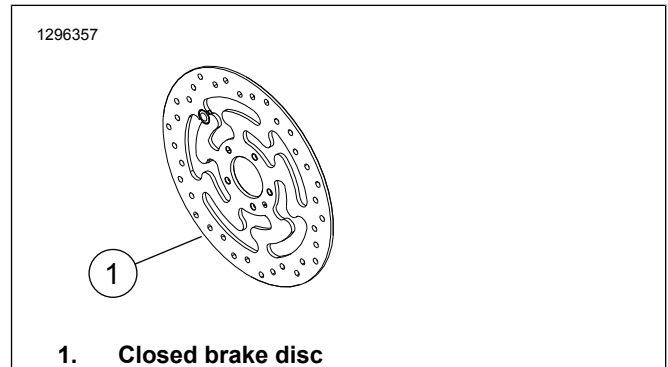

Figure 1. Front Brake Disc Style
- Brake Disc Screws (See Figure 1 and Table 1)